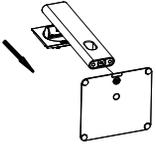

Figure 1
- ① Insert the base support into base along the arrow direction and lock the screws tightly as shown in figure 1.